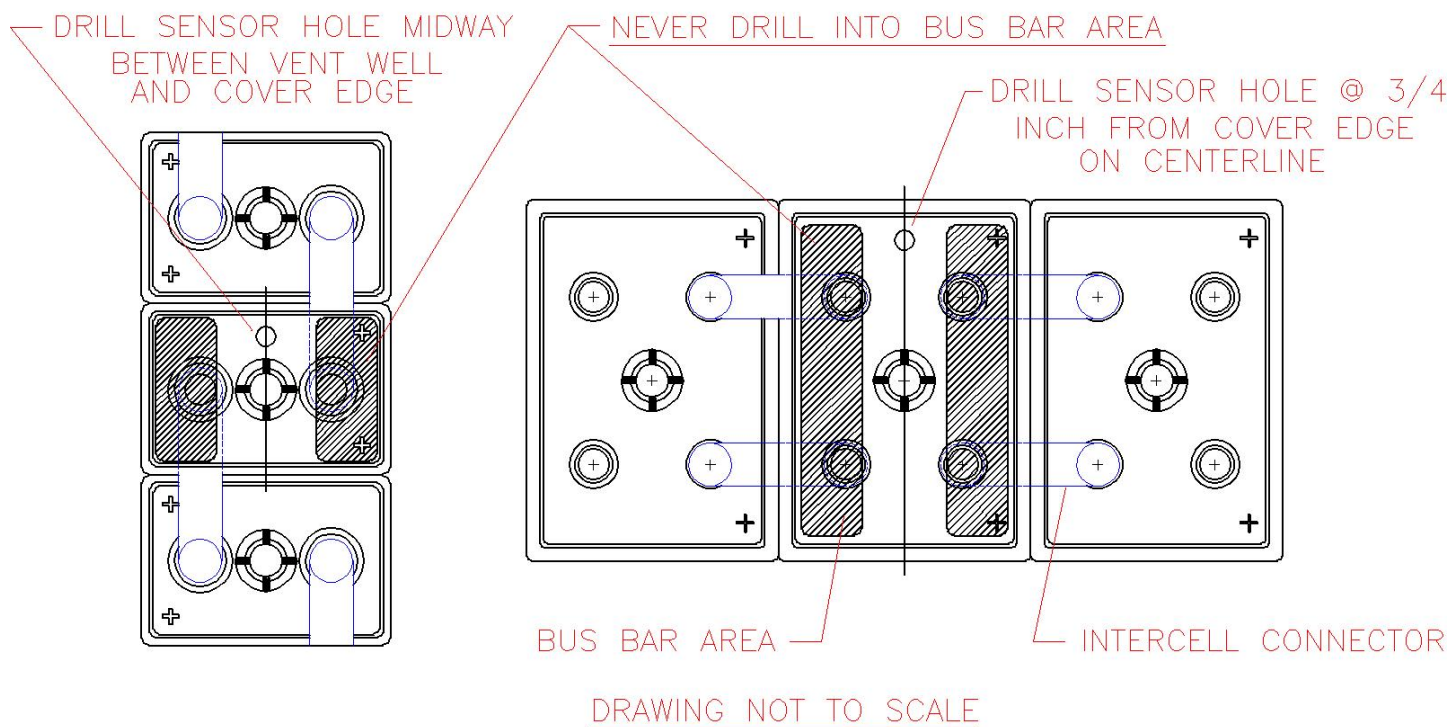

FIG. 1
- 13) The electrolyte level sensor is installed in the same cell as the battery balance gray wire. Using the example from step 6, it would be the 9th cell from the negative terminal in an 18 cell battery. Carefully drill a 9/16" hole in the cell cover toward the center line of the cell cover (see fig. 1). The hole should be located to provide the probe with access to the electrolyte inside and about 3/4" from the edge of the cover. **DO NOT DRILL THE HOLE IN AN AREA OF THE COVER WHERE THE BUS BARS FOR THE BATTERY PLATES ARE LOCATED.** (see fig. 1)